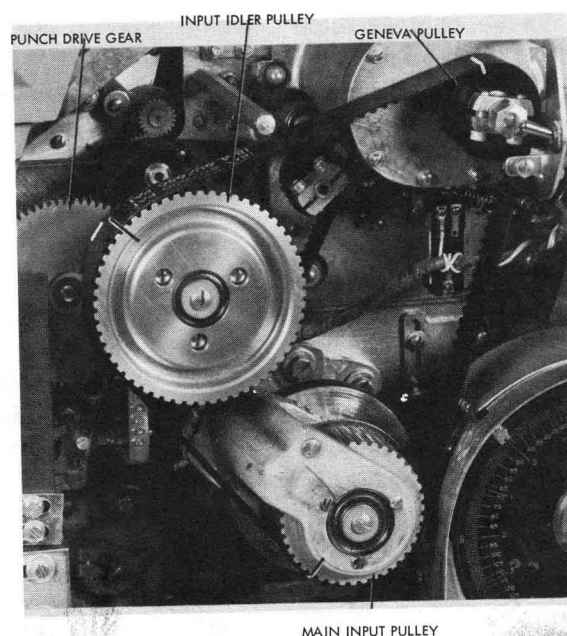

Figure 3-18. First Stepped Feed Roll Timing Belt Installation
3. Mark relationships of main drive belt to input idler pulley, geneva and main input pulley. Refer to Figure 3-18.